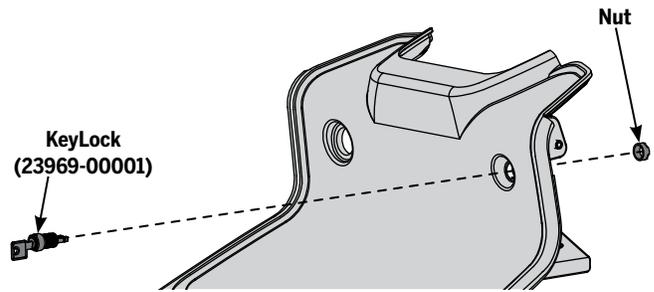

Figure 69: KeyLock
4. Unscrew the plastic nut on the back of the KeyLock. See Figure 69.
2. Insert the KeyLock through the hole on the right hand side of the Bib Panel. See Figure 69.